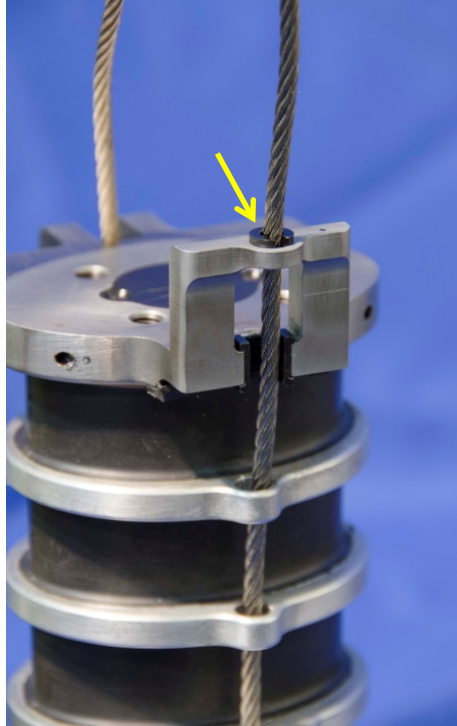

Figure 4-20. Install top plate cable guide
- 4.2.2.10 Insert the shorter (4.7 mm) cable guide (472-2106) into the neck top plate around the front cable (Figure 4-20). There is a slit in the guide on one side to stretch the guide open and press it onto the front cable. Once the guide is on the cable, press it into the hole in the top neck plate.